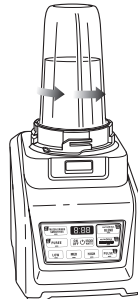

Fig. 5
- 9 Once you have reached your desired consistency, stop the appliance by pressing the power button and wait for the Pro Extractor Blades Assembly to stop turning. Turn the Nutri Ninja® Cup anticlockwise and pull straight up to remove. (Fig. 5, Fig. 6)